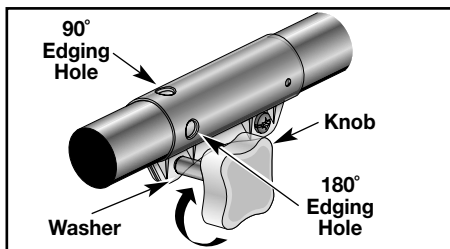

Fig. 10
3. **EDGING WITH THE TRIMMING HEAD ATTACHMENT** - Locate and lock the release button into the **90° edging hole** or **180° edging hole** in the Click-Link (Fig. 10).
4. Tighten the knob securely **clockwise** before using the unit (Fig. 10).
For edging with the trimming head attachment, locate and lock the release button into the **90° edging hole** or **180° edging hole** in the Click-Link system (Fig. 10).